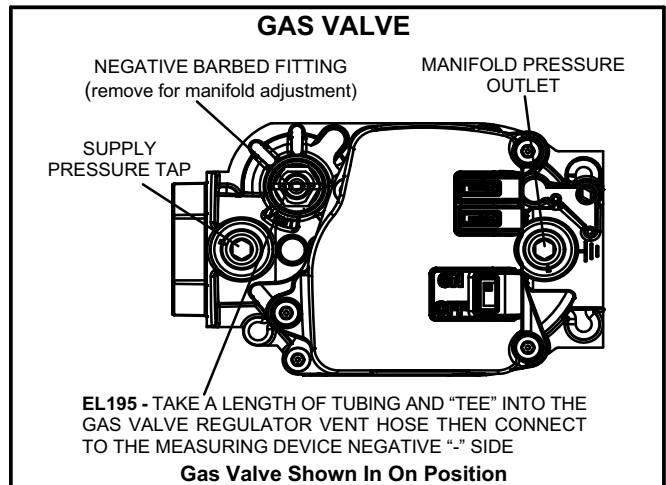

FIGURE 7
- 6 - Move gas valve switch to **OFF**. See figure 7.
- 7 - Wait five (5) minutes for any gas to clear out. If you then smell gas, **STOP!** Immediately call your gas supplier from a neighbor's phone. Follow the gas supplier's instructions. If you do not smell gas, go to the next step.
- 8 - Move gas valve switch to **ON**. See figure 7.
When testing supply gas pressure, use the 1/8" N.P.T. supply tap located on the gas valve to facilitate test gauge connection. See figure 7. Check gas line pressure with unit firing at maximum rate. Low pressure may result in erratic operation or underfire. High pressure can result in permanent damage to gas valve or overfire.
When testing manifold gas pressure, use the 1/8" N.P.T. plugged tap (manifold pressure outlet) located on the gas valve to facilitate test measuring device. See figure 7.
7 - Remove the negative barbed fitting as shown in figure 7 and using a screw driver make adjustment to increase or decrease manifold pressure.